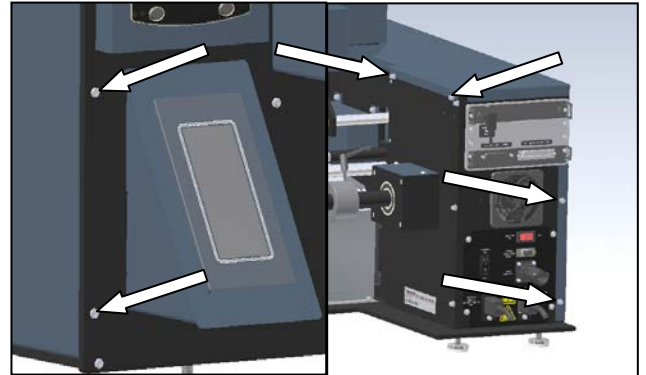

Figure 3-73. Frame Cover Screws
1. Remove the six screws holding the Frame Cover. Set screws and Frame Cover aside (Figure 3-73).